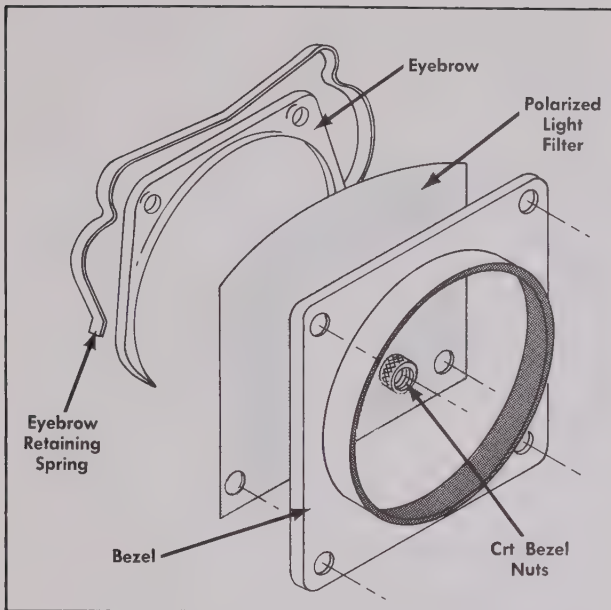

Fig. 4-2. Crt bezel and eyebrow arrangement.
1. Remove the crt bezel nuts, bezel, and plastic polarized light filter (see Fig. 4-2).